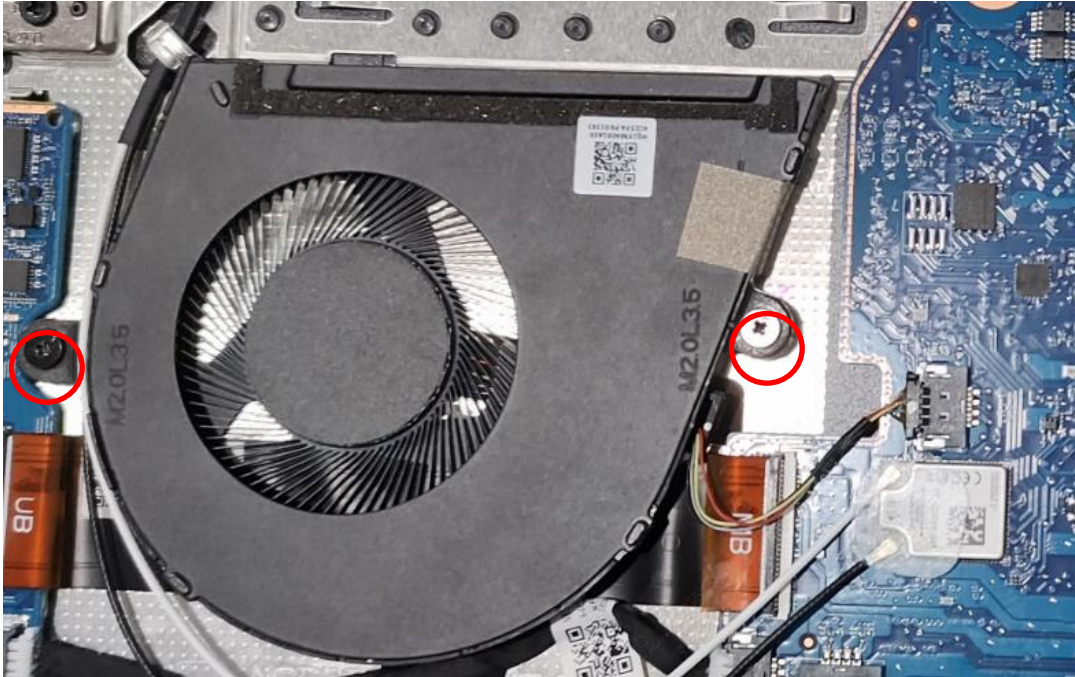

Figure 3-24. SSD Removal
1. Unscrew the screws on the MB and disconnect FAN connect. (Figure 3-24).